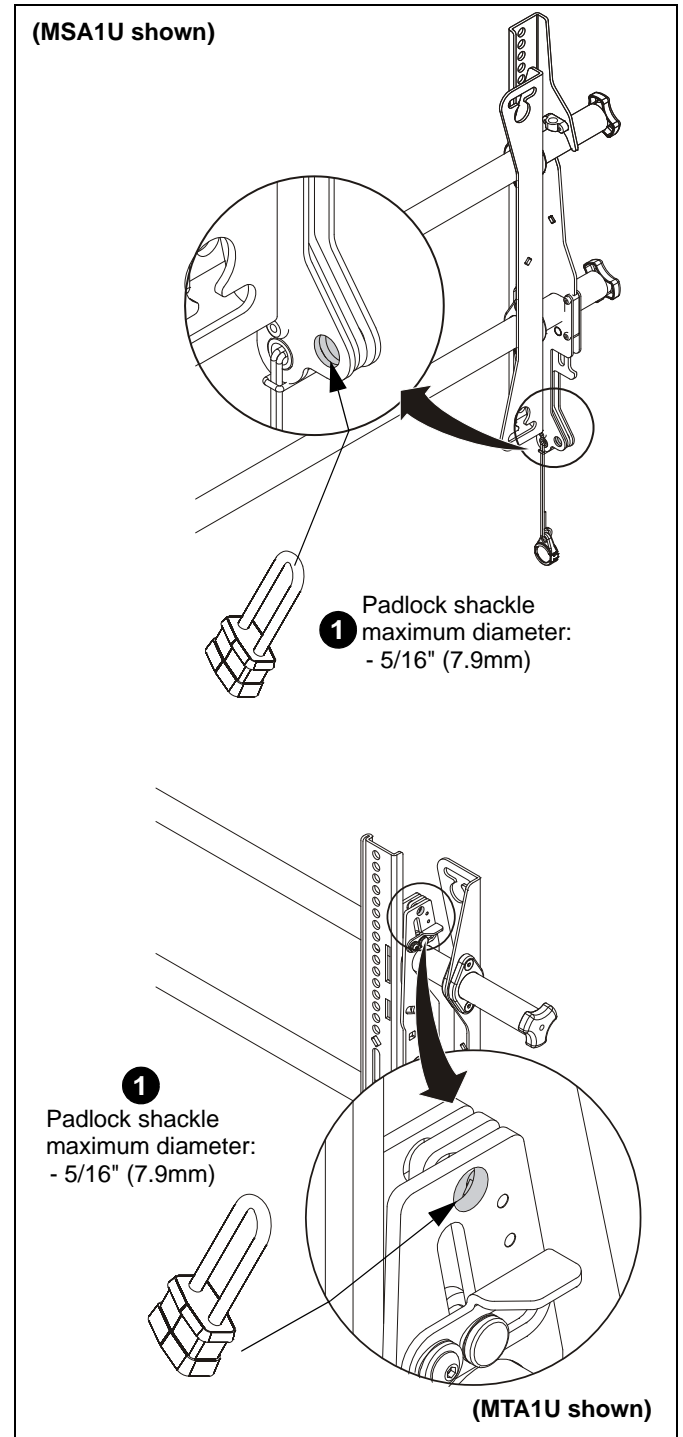

Figure 13
1. Add padlock (not included) to interface bracket to complete security. (See Figure 13)